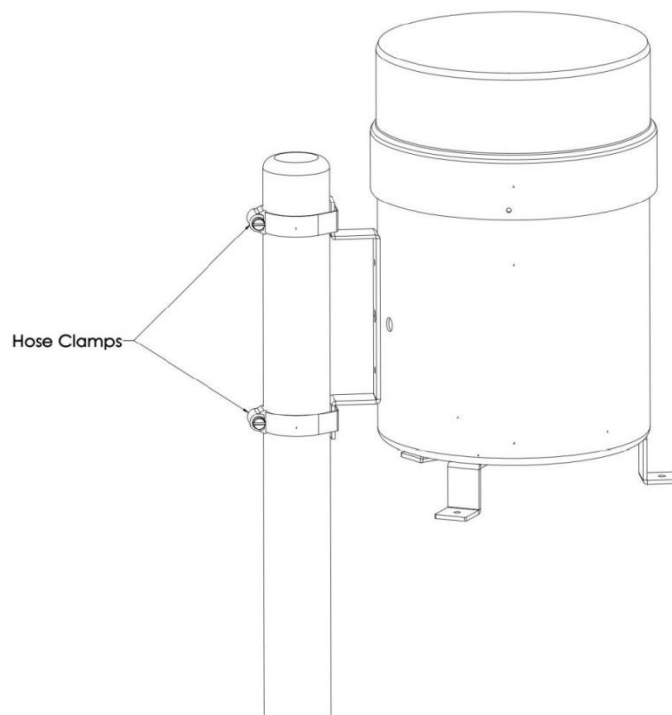

Figure 4. Mast Mounting
1. Use hose clamps to secure the rain gauge to a mast as shown in Figure 4. Hose clamps are included with the rain gauge to allow it to be clamped to a mast with a diameter up to 1".